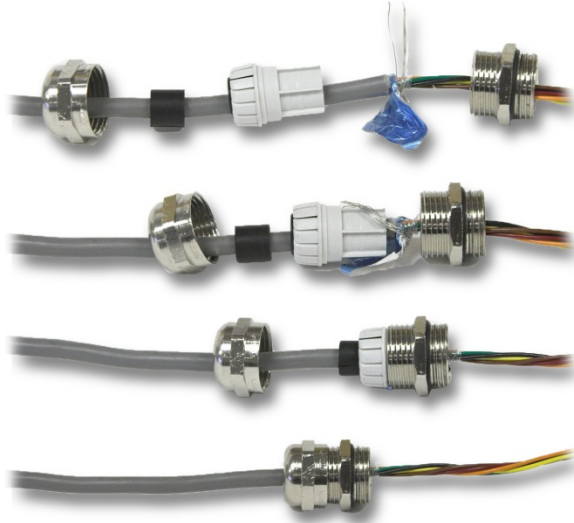

Figure 3-17: Shield Termination at Gland
2. Cables that include shields should have the shield terminated at the gland as shown in Figure 3-17. Spread the shield wires out and make sure enough shield wire is present to make good contact with the metal part of the gland.